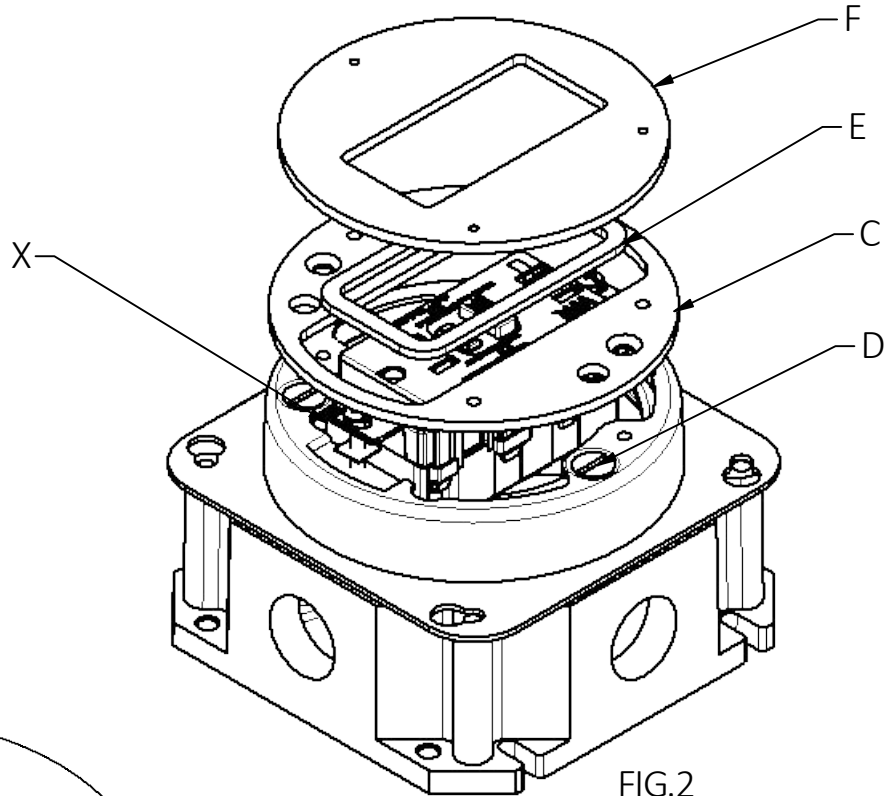

FIG.2
7. Install provided backing plate E and gasket F. **(FIG. 2)**
7. Monter la plaque de fixation E et le joint F fournis. **(FIG. 2)**
7. Instale la placa trasera E y la junta F proporcionadas. **(FIG. 2)**